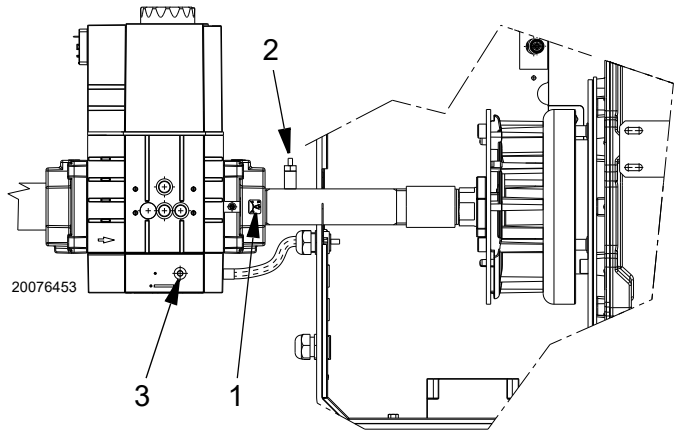

Fig. 162
- Turn the screw V1 towards the “+” sign (Fig. 162 on page 50).
- Check the appearance of the flame, if possible, or the value of the CO and CO₂ to understand whether the burner has been sufficiently calibrated (first maximum calibration). If necessary use the screw V2 of the gas valve (turn towards the “+” sign to increase the gas, towards the “-” sign to decrease the gas) (Fig. 162 on page 50).
- Check the appearance of the flame, if possible, or the value of the CO and CO₂ to understand whether the burner has been sufficiently calibrated (first maximum calibration). If necessary use the screw V1 of the gas valve (turn towards the “+” sign to increase the gas, towards the “-” sign to decrease the gas) (Fig. 162 on page 50).
- to increase the gas delivery and the CO₂: turn the V1 screw towards the "+" sign (Fig. 162);
- to reduce the gas delivery and the CO₂: turn the V1 screw towards the "-" sign (Fig. 162);
Key (Fig. 162)